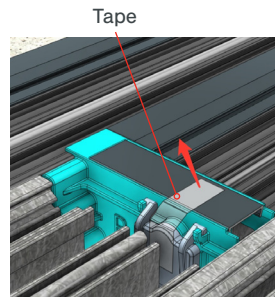

Fig 33
- Remove the tape found on top of the transverse drains of the intermediate panels (Fig 33).